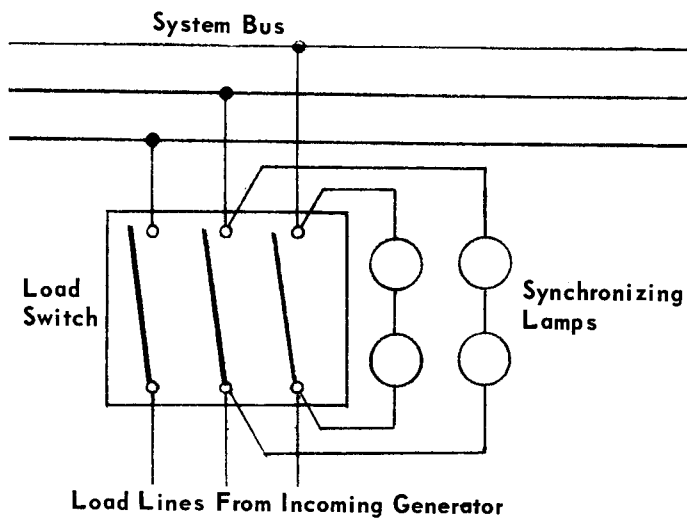

Figure 3-1 Synchronizing Paralleled Generators With Test Lamps
3.9.2 If a synchroscope is not available, generators can be synchronized by using incandescent lamps connected in the load circuit as shown in figure 3-1. Make certain that the total voltage rating of the series lamps equals the voltage rating of the generator.